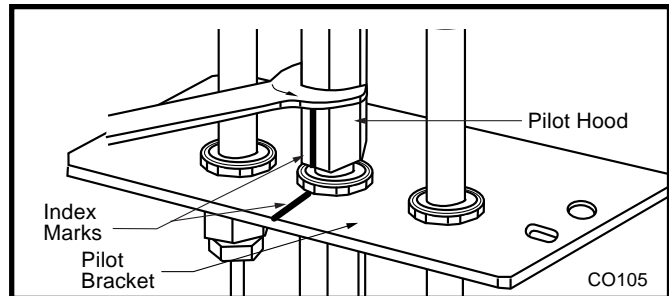

Fig. 69 Remove pilot hood.
11. Loosen pilot hood turning counterclockwise using a 7/16" wrench. (Fig. 69)